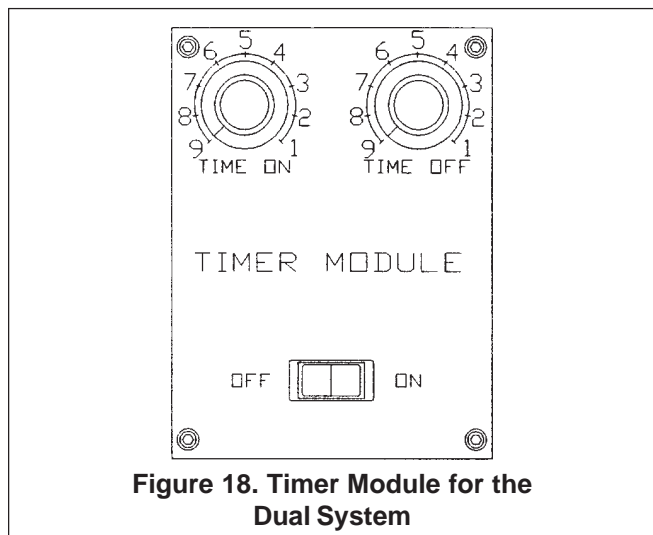

**Figure 17. Electrical Enclosure Module for the Cylindrical System**
**ELECTRICAL ENCLOSURE MODULE FOR THE CYLINDRICAL SYSTEM.** (See Figure 17.)